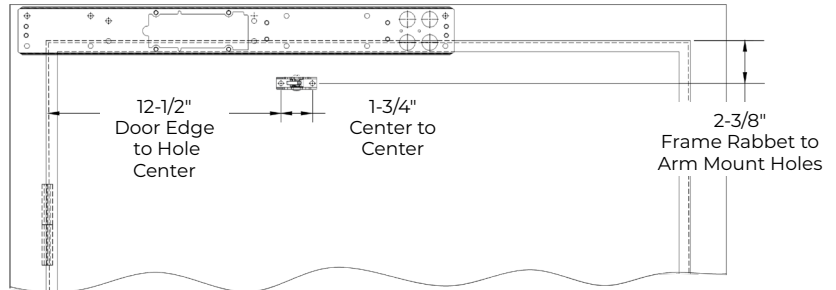

Figure 4
- Using the template on page 8, measure and mark the door for the first forearm shoe mounting hole. (Figure 4)